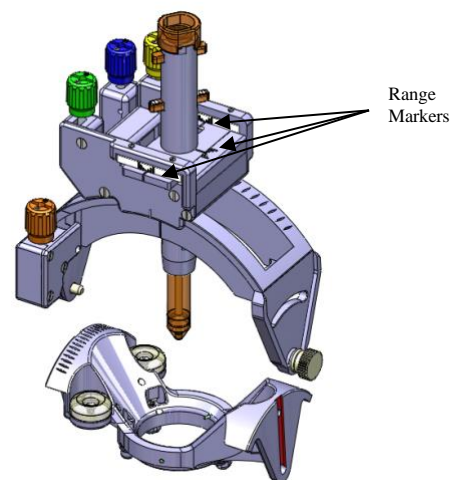

Figure 4
7. Orient the Tower, relative to the Base, by placing the thumb wheels of the Tower toward the two fiducial marker side of the Base. **See Figure 4.** Be sure that each of the four thumb wheels is near the center of their ranges by looking at the range marker associated with each wheel.